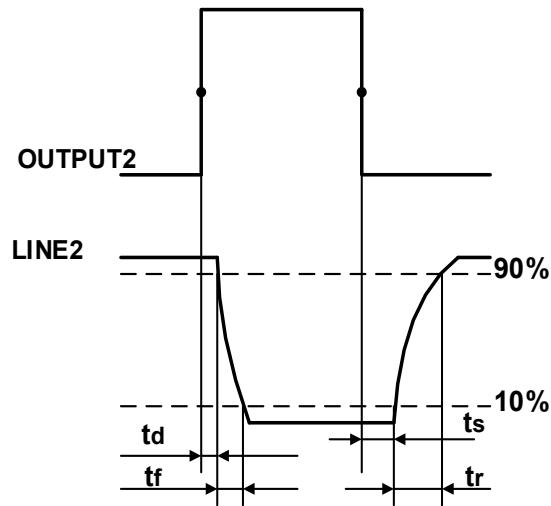

Figure 7-12 Parameter of Line2 output circuit
- Rising time delay = tr+td: < 20 μs (0 °C ~ 45 °C) (parameter description as shown in Figure 7-12)
- Falling time delay = ts+tf: < 20 μs (0 °C ~ 45 °C) (parameter description as shown in Figure 7-12)